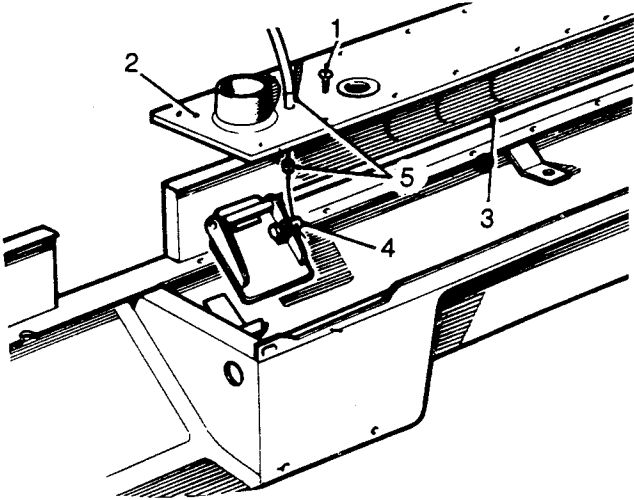

Fig N3.4
- (3) Refer to Fig N3.4. Remove the heater ducting cover fixings (1).
- (4) Withdraw the ducting cover (2) to gain access to the air distribution flaps.
- (5) Withdraw the distribution flaps from the facia (3).
- (6) Disconnect the inner cable at the flaps (4).
- (7) Withdraw the outer cable (5) retained at the ducting cover by a tubular clip.